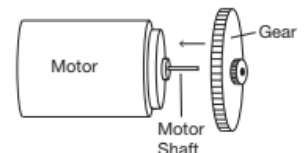

Figure 4.
19. Insert the motor shaft through the hole in the gear with the flat side of the gear facing the motor (Figure 4).